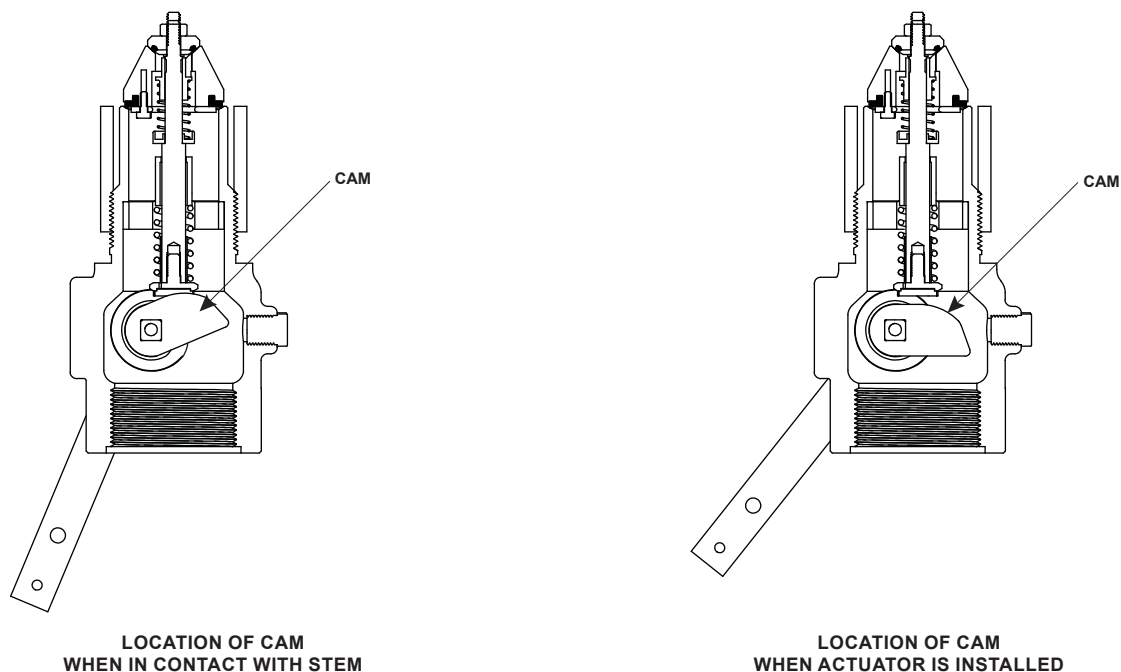

Figure 14. Cam Location
4. Using the hand actuation lever, turn the internal valve stub clockwise by hand until the valve cam is touching the valve stem (see Figure 14).
1. Using the hand actuation lever, turn the internal valve stub clockwise by hand until the valve cam is touching the valve stem (see Figure 14).
3. Using the hand actuation lever, turn the internal valve stub clockwise by hand until the valve cam is touching the valve stem (see Figure 14).